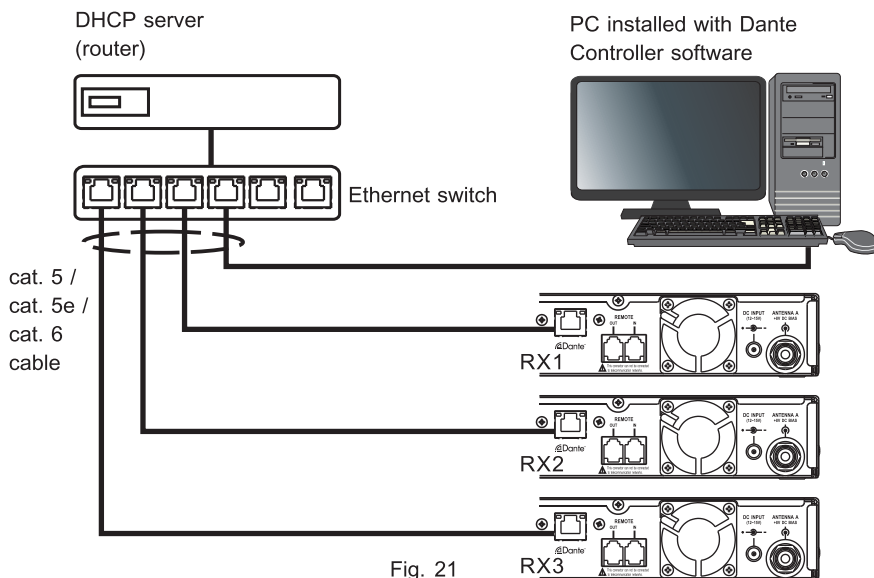

Fig. 21
1. Dante Network. Fig. 21:
- (A) Connect Dante RJ45 port on the device to the Ethernet switch via cat. 5 / cat. 5e, or cat. 6 cables to construct Dante Network.
- (B) The Ethernet switch needs to be connected with a DHCP server (e.g. router) to provide DHCP function.